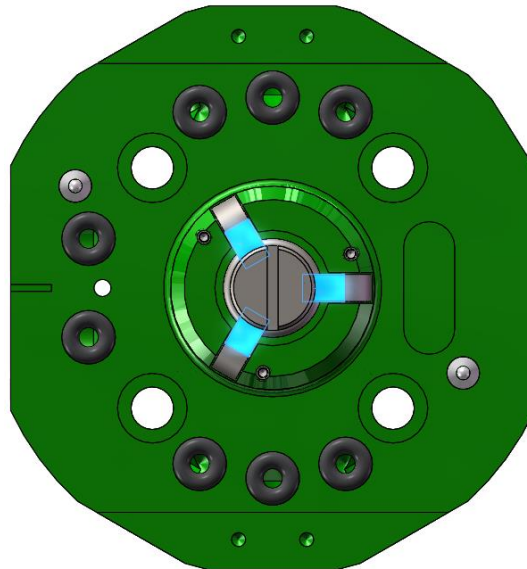

Figure 8.1.1.1-1. E50 Robot Side Lubrication – Cams & Driver
2. Apply a liberal coating of white lithium grease to the contact surfaces between the three (3) latching cams and driver, as shown in Figure 8.1.1.1-1 with the surfaces highlighted blue.